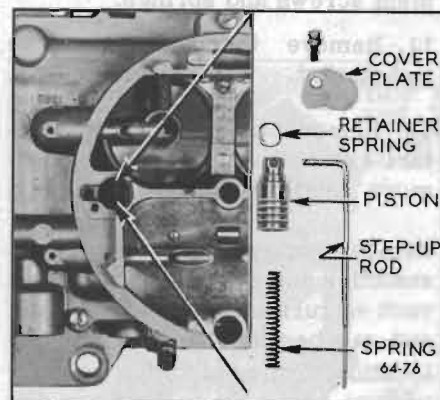

Figure 64-57—Step-Up Rod and Related Parts
3. Remove screws holding two step-up piston cover plates to air horn. Remove cover plates and remove each step-up piston, rod, and rod retainer spring as an assembly. Then remove two step-up piston springs. See Figure 64-57.